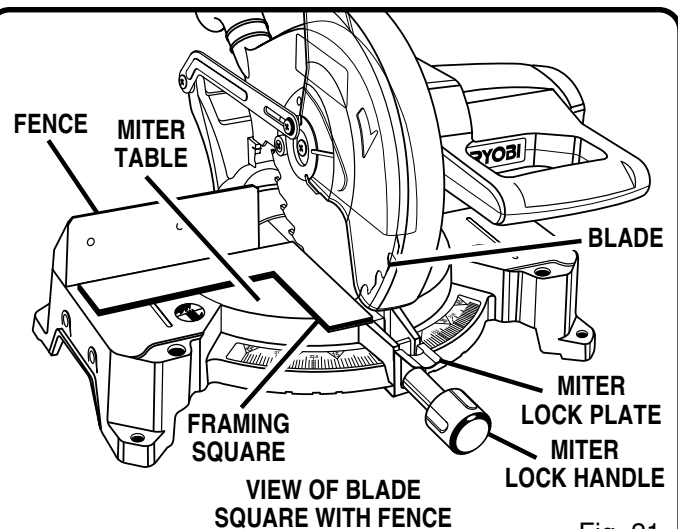

Fig. 21
See Figures 21 - 24.
- The edge of the square and the saw blade should be parallel as shown in figure 21.